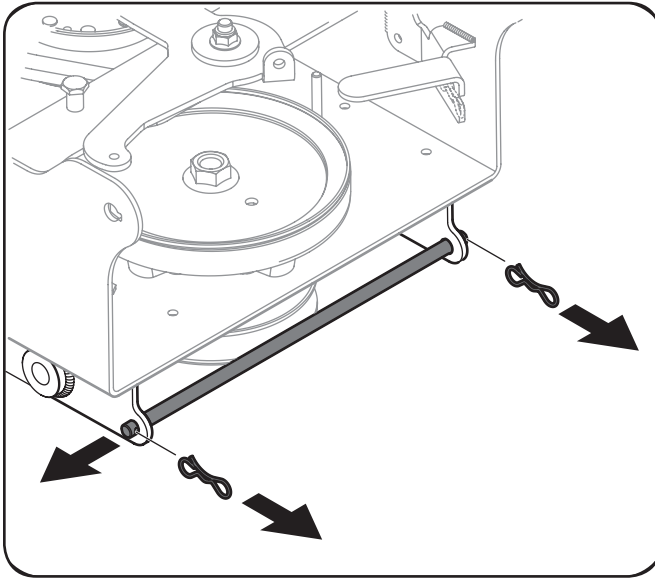

Figure 3-4
2. Remove the rod from the rear of the carriage assembly. Retain the clips and rod, as they will be reattached in later steps. See Figure 3-4.